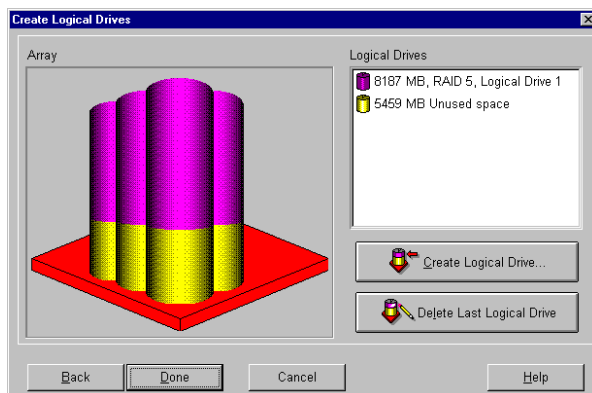

Figure 7-20: Expansion Wizard – Create Logical Drives screen
5. Click **Next** at the bottom of the screen. The screen shown in Figure 7-20 is displayed.